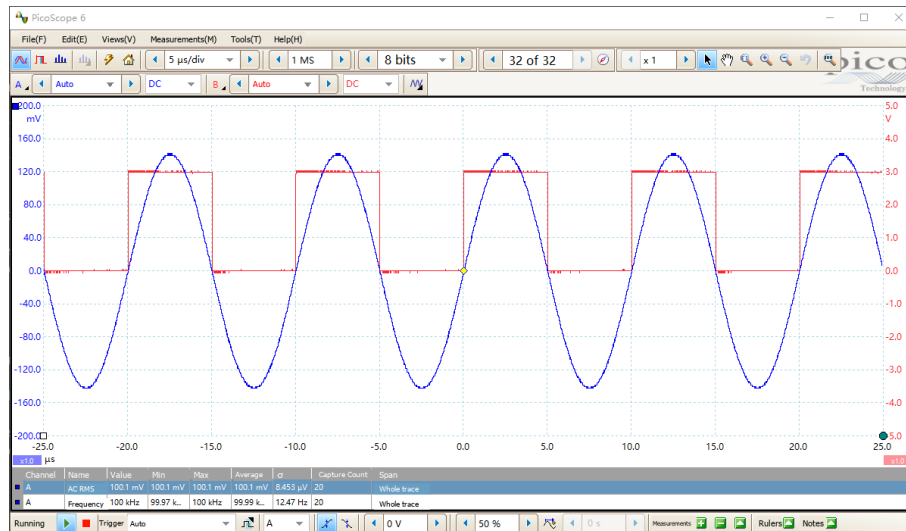

Figure 93. Waveform of the Signal Under Test
3. Turn on the function generator and set the parameters to "Waveform: sine wave", "Amplitude: $100\text{ mV}_{\text{rms}}$ ", "Frequency: 100 kHz ", "Output impedance: high impedance", and "Sync output: on". The waveforms of the signal under test and the synchronization signal are shown in Figure 93.